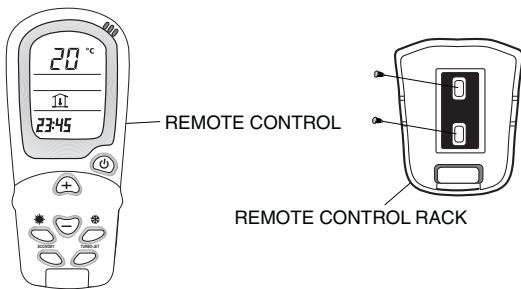

Fig. 10 — Attach Rack to the Wall
1. Use the two screws supplied with the controller to attach the rack to the wall in the location selected by the customer (see Fig. 10).